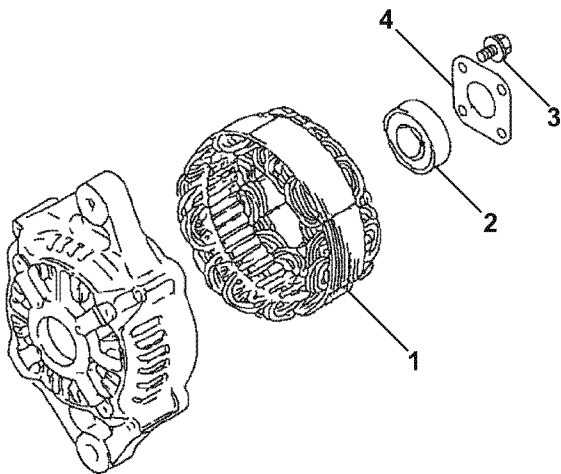

Figure 11-10
9. Remove the stator assembly (Figure 11-10, (1)) from the front frame housing.
10. If it is necessary to replace the bearing (Figure 11-10, (2)) in the front frame housing, remove the four bolts (Figure 11-10, (3)) securing the plate (Figure 11-10, (4)) to the front frame housing. Remove the plate. Use a puller to remove the bearing. Discard the bearing.